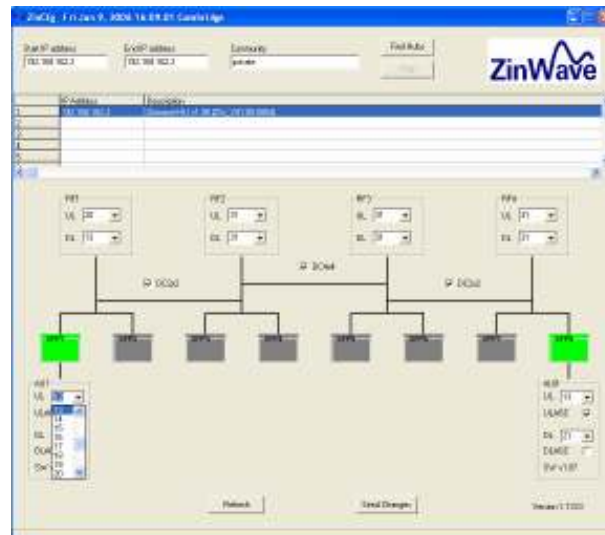

Figure 22
The uplink (UL) and downlink (DL) attenuation for the Hub and AU can be selected using the drop down lists. The AU Uplink AGC (ULAGC) and the Downlink AGC (DLAGC) are enabled by ticking the respective boxes. Click on the “Send Changes” button to implement the changes. (Figure 22)